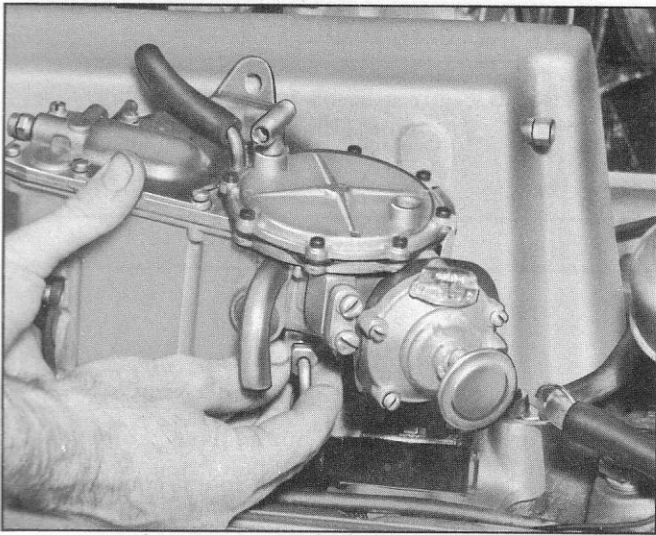

Fig. 85—Installing Nozzle Line in Meter
2. Install a new "O" ring on the nozzle fuel distribution line, position fuel meter so that the distribution line will enter the fuel meter with no interference. Carefully insert the line into the meter, finger tighten the retaining nut (fig. 85).